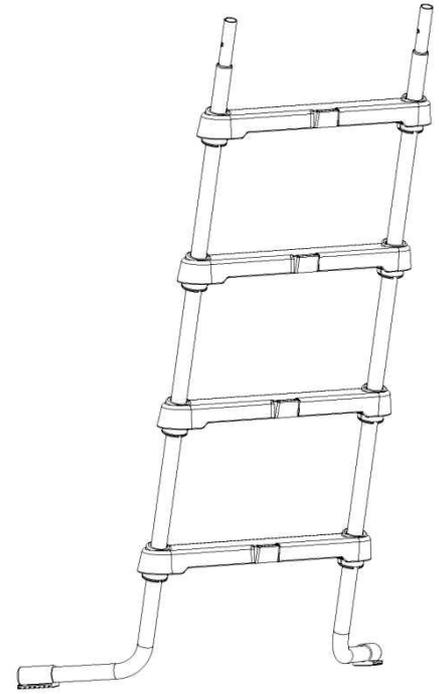

Fig. 3
4. Slide a Ladder Step (42) down over both legs. Make sure that the side of the stop marked with an "R" is on the right side leg. Slide the stop down until the ladder step clips inserts into the underside of the stop and the ridges inside of the clips lock into place. The ladder step clips should stay in the indented section of the ladder leg as you press the steps down over them. The ladder step clips should insert flush against the bottom of the step. (See Fig. 3)